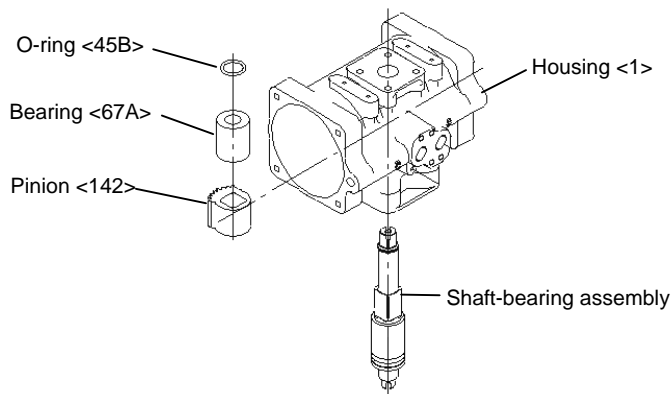

Fig.15
- (3) Lubricate an O-ring, a bearing, a pinion gear and the shaft, and assemble them with the housing (Fig.15). The pinion teeth and the NAMUR groove on top of the shaft must be positioned each other as shown in Fig.16.